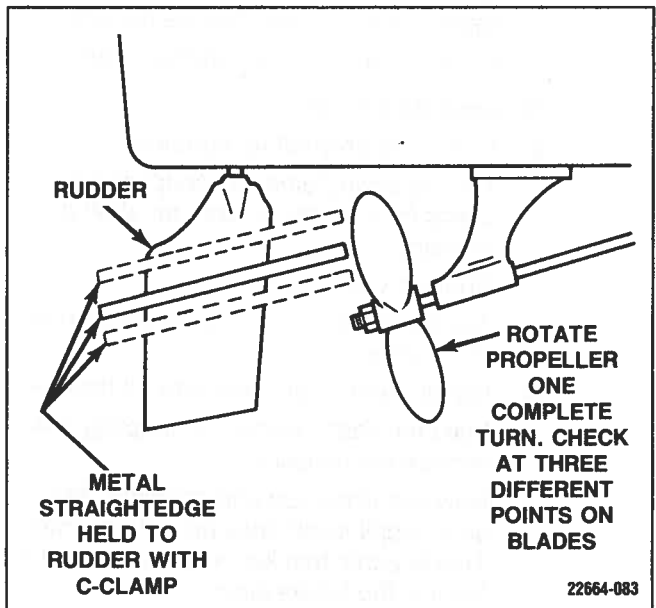

Figure 11-16. Checking Propeller Pitch And Seating
4. Check that all propeller blades are the same pitch and that propeller is properly seated on shaft (Figure 11-16). Repair or replace if necessary.